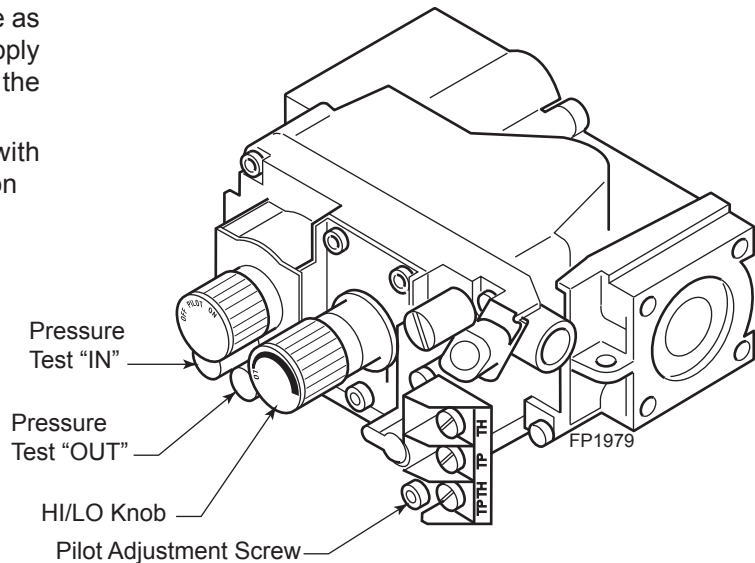

**Figure 44 -
5. To check gas pressures at valve, turn captured screw counter clockwise 2 or 3 turns and then place tubing to pressure gauge over test point. Turn unit to high. *Figure 44.* After taking pressure reading, be sure and turn captured screw clockwise firmly to reseal. Do not over torque. Check test points for gas leaks.